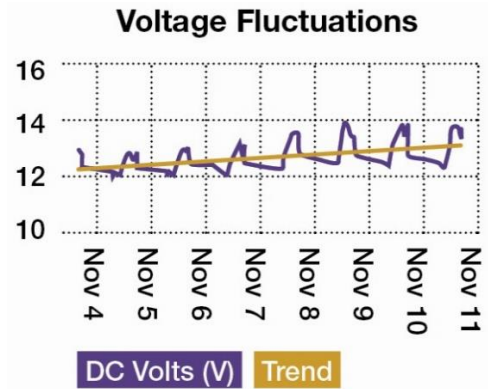

Figure 3- Voltage fluctuations
- Solar panels are used to charge the batteries during the daylight. At night or during days of cloud cover, the batteries discharge. Lead acid batteries in their fully charged state are about 13.8 volts and fall to 12.0 volts in a nearly depleted state, which is about a 13% difference. A properly designed solar system will fluctuate 1.0 to 1.3 volts from day to night; approximately 7.5 to 10% change in voltage. The variations in the voltage of a solar pump due to 1) day/night variation and 2) trend change over a week are shown in Figure 3.